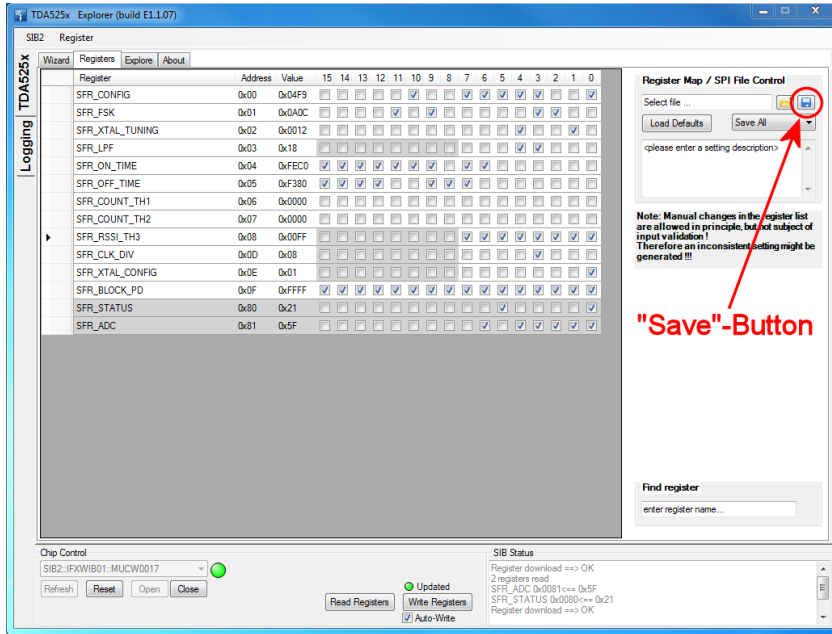
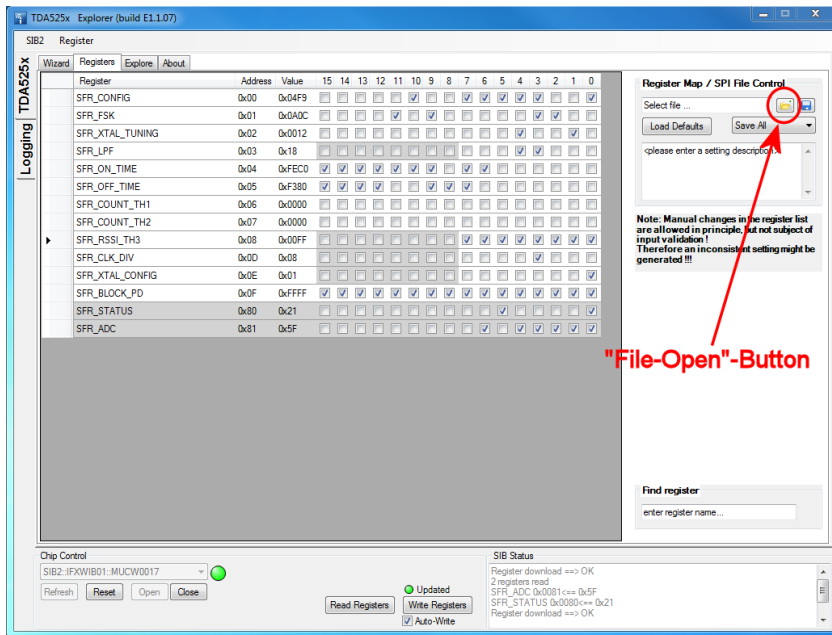

Figure 11: Save button
Figure 12: File-Open button
- The registers settings can be saved as config-file (*.spi.def) by clicking at the **“Save”**-button in the **Register**-tab on the one hand (see Figure 11). Already available config-files can be loaded by clicking at the **“File-Open”**-button on the other hand (see Figure 12)